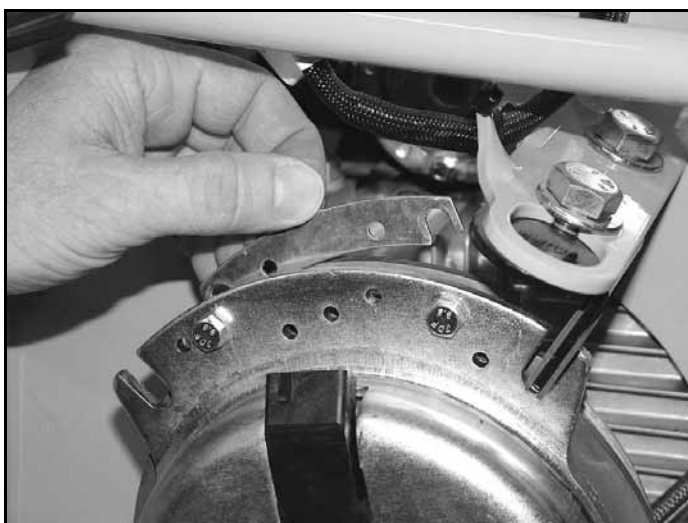

Figure 5-21
The air gap is only adjustable on clutches that have a removable shim (see Figure 5-21).
2. Using needle nose pliers, or by hand, take hold of the tab and remove shim (do not discard shim until proper clutch function has been confirmed). Figure 5-21